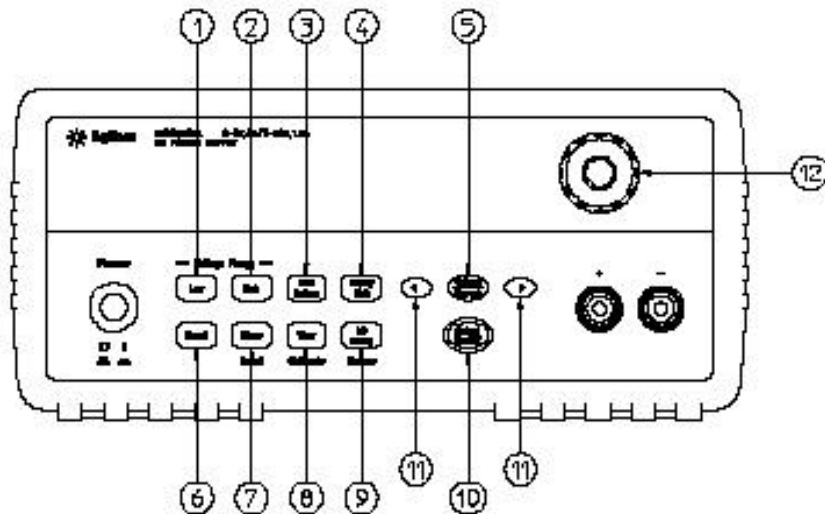

Figure AA-18. The Agilent Model HPE3640A programmable power supply.
The Agilent Technologies Model E3640A programmable power supply (Figure AA-18) is of late 1990s technology. It is a single-output, dual range 30 watt supply. It has two ranges: LOW: 0 to +8V @ 0 to 3 A and HIGH: 0 to +20V @ 0 to 1.5 A. It can function as a constant voltage (CV) source or a constant current (CC) source, and will automatically switch from the one source type to the other depending on the load resistance. Voltage and current limits may be set